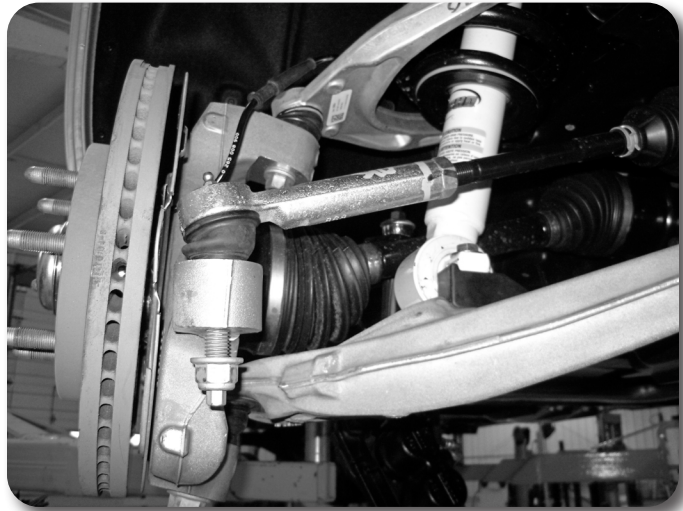

Figure 3
6. Disconnect the steering from the knuckle **Figure 3**. Remove the tie rod end nut. Steel Knuckle: Strike the knuckle near the tie rod end with a hammer to unseat the taper. Aluminum Knuckle: Avoid striking the knuckle, typically the taper unseats more easily and gently hitting the end of the tie rod end will unseat the taper. A pickle fork can also be used. Save the mounting nut.